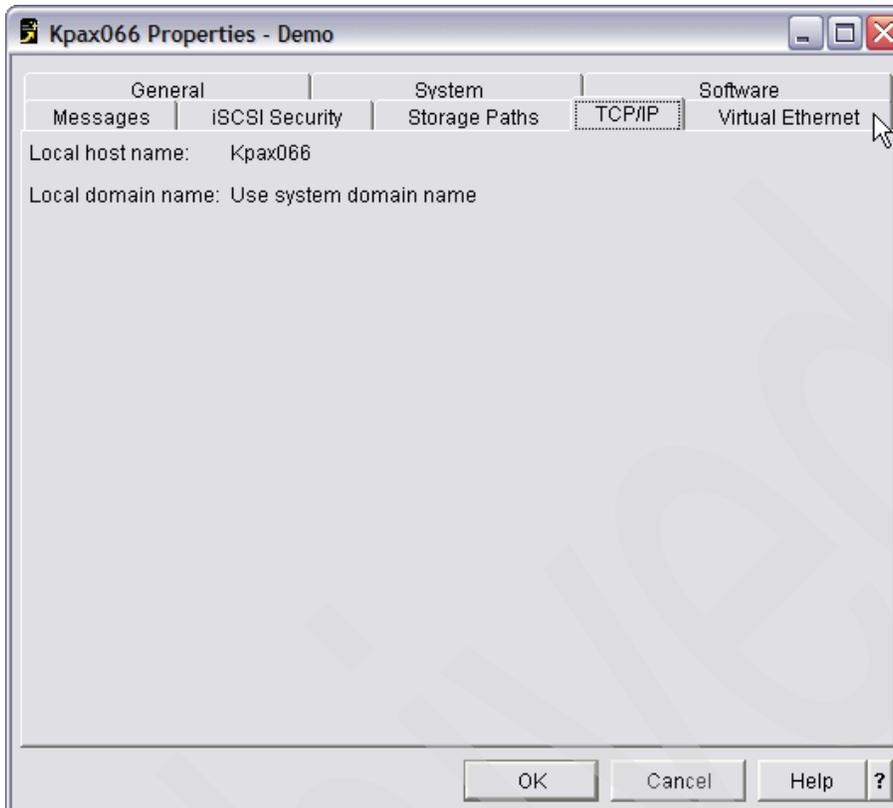

Figure 6-69 TCP/IP tab NWS D Properties
► **TCP/IP page information (Figure 6-69 on page 217):**